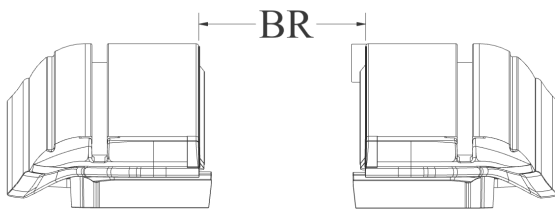
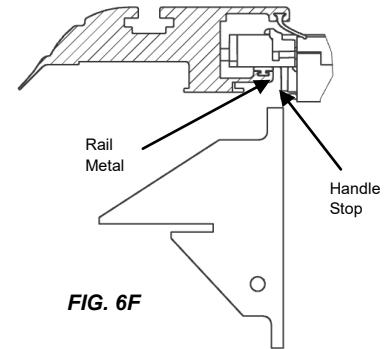

FIG. 6C
FIG. 6F
Now tighten your clamp turn knobs hand tight. Finally, check for proper spacing by measuring between the rails by attempting to insert the BR Gauge in between the rail metal and the handle stop (Fig 6F). You can also check the between the rail measurement at the canister and the tailgate end of the rails. The measurements should be equal to or less than those in Figure 6C. The Clamp Extensions have been pre-installed with brackets and shims to achieve the proper Between the Rail dimension (BR) when placed on an average factory truck bed. However, not all truck beds are average dimensionally and some have optional plastic caps or over the rail spray-in liners.